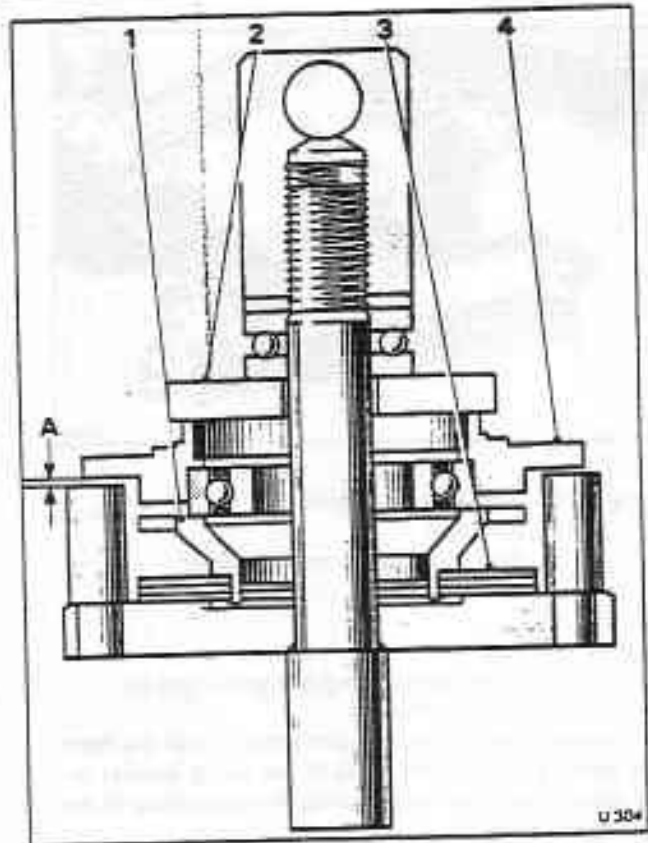

Fig. J1-12 Belleville washer setting
20. Place the right-hand housing, distance piece, and belleville washers in the checking jig RH 9578 and tighten the jig end pieces until the belleville washers are flat (see fig. J1-12).